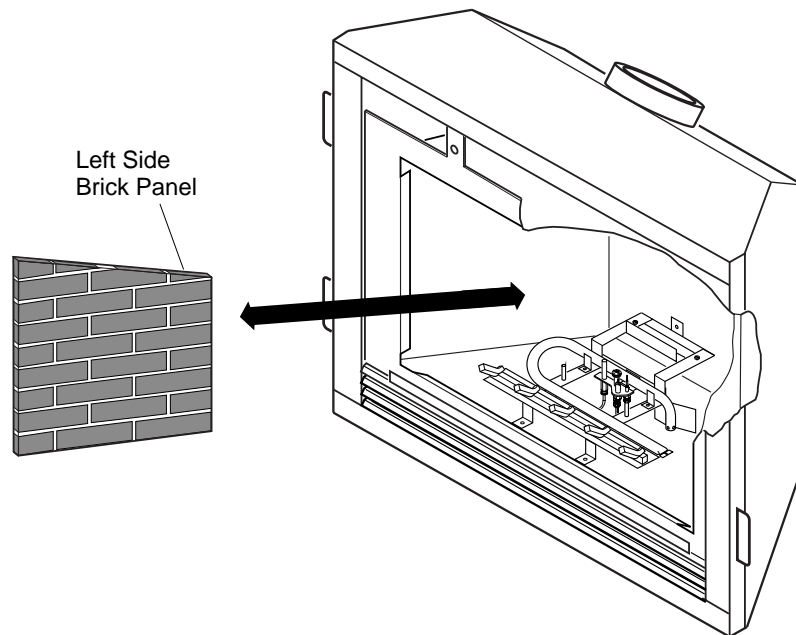

Figure 44 - Installing Left Side Brick Panel
3. Install left side brick panel first by sliding it between the grate and the side of the firebox (see Figure 44).